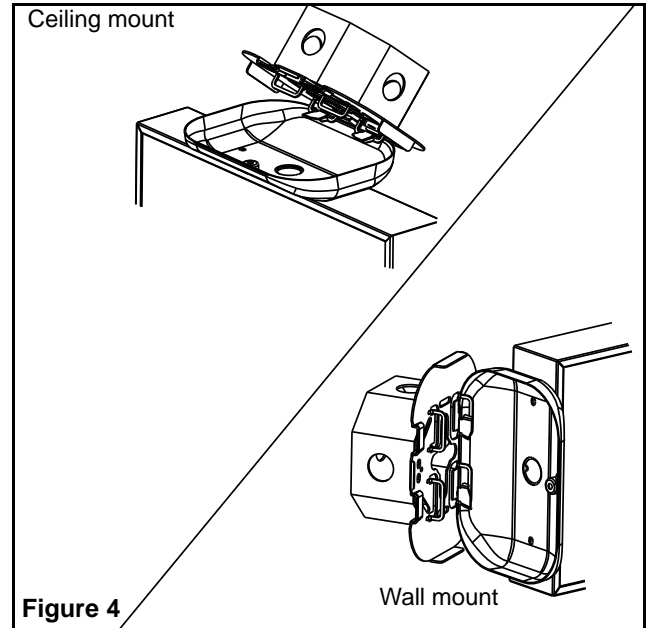

Figure 4
- h. The “Quick-install” canopy is equipped with ribs allowing you to hang the unit to the spider plate to facilitate wiring (See Figure 4).